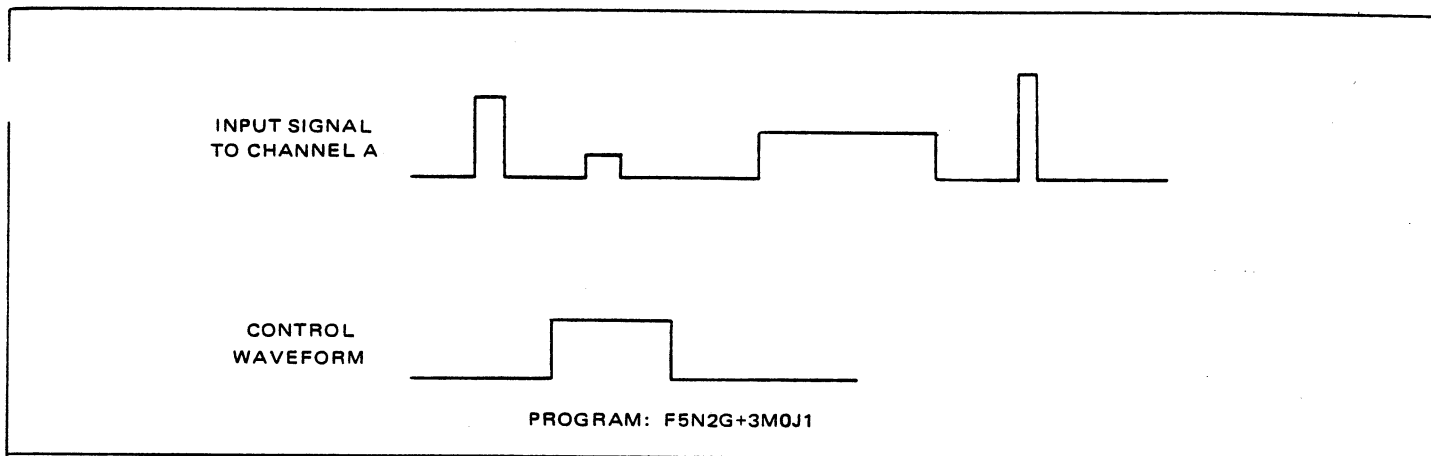

Figure 3.11 - Synchronous Window Example 1
3.2.11.4.2.1 When programmed as shown and provided with a control waveform which brackets the pulse to be measured as shown below the counter will measure and calculate the average rise time of the bracketed pulse for 1000 measurements as shown in Figure 3.11.